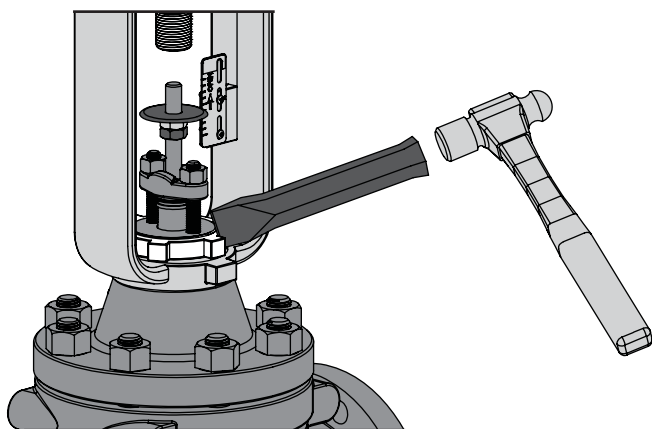

Figure 8 Yoke Locknut Tightening Detail
- 7 Secure the actuator to the valve by tightening the yoke locknut (Key 26) on the valve bonnet. Refer to Figure 8.
- C Secure the actuator for hoisting using the procedures mentioned in the UNPACKING section (Page 4). Using a heavy blunted chisel or metal rod and a hammer, loosen the yoke locknut as shown in Figure 8.